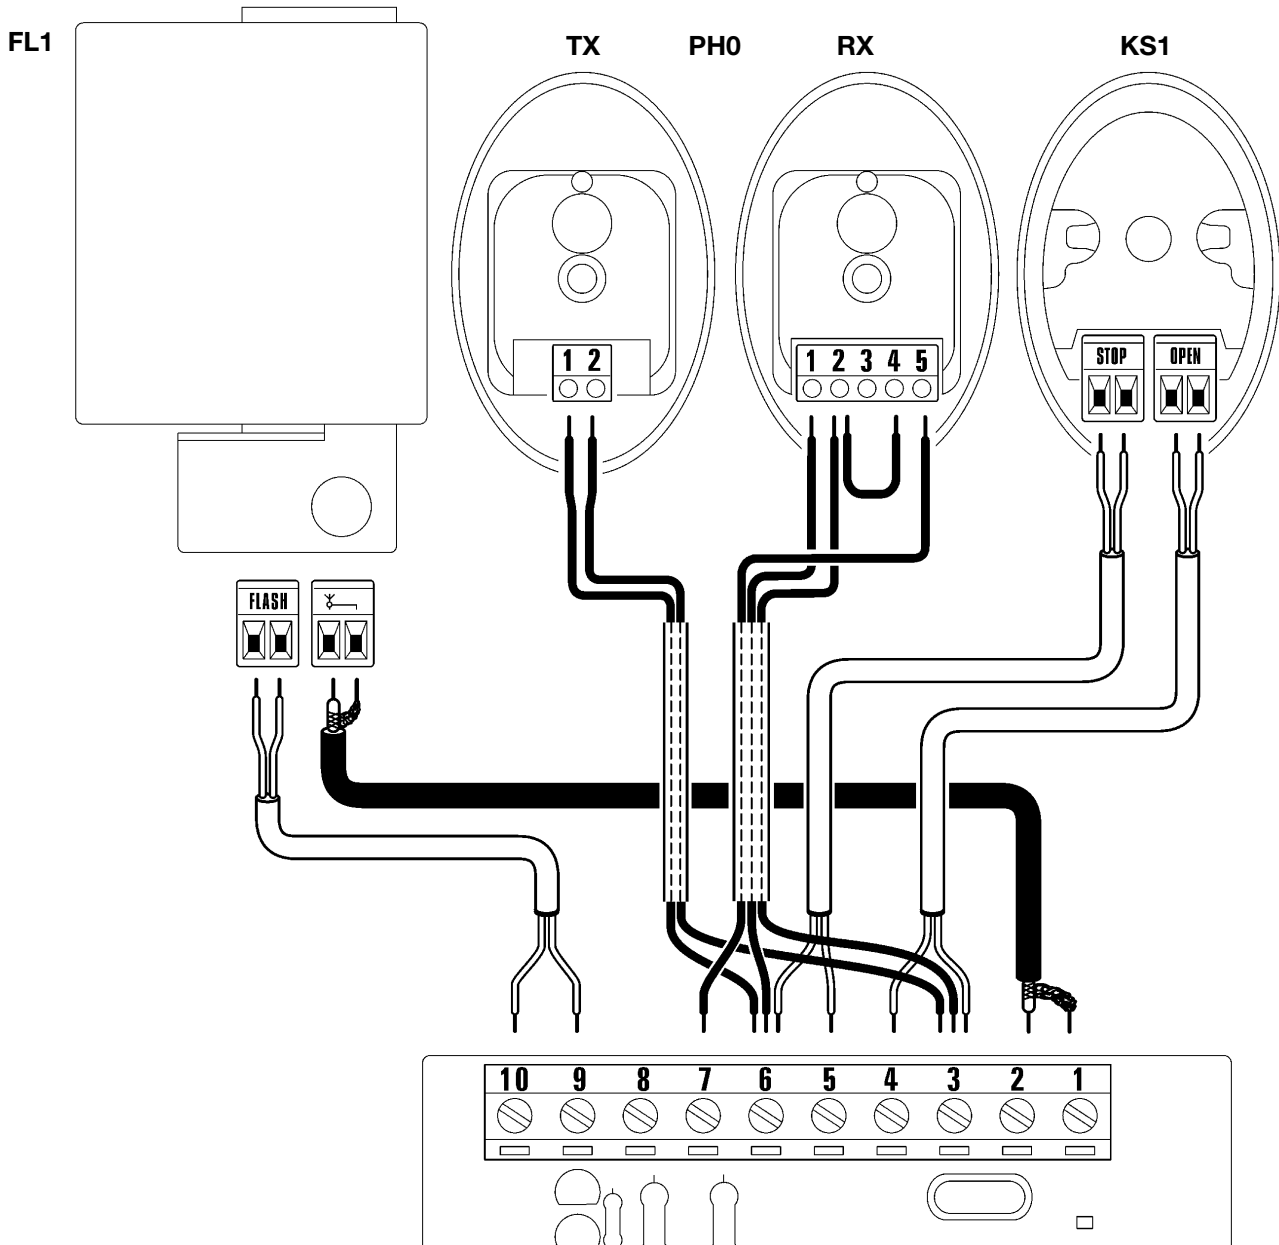

Figure 56
4 Use Fig. 56 and the connection description in Table 6 as reference.
- if using the PH0 photocell, remove the small piece of wire between terminals 3 and 7 and make the connections as in Fig. 56.
**1** Prepare the technical documentation for the automation, which must include at least: assembly drawing (e.g. figure 1), wiring diagram (e.g. figure 56), analysis of hazards and solutions adopted, manufacturer's declaration of conformity of all the devices installed. For GDO use Annexe 1 “EC Declaration of Conformity of the GDO components”